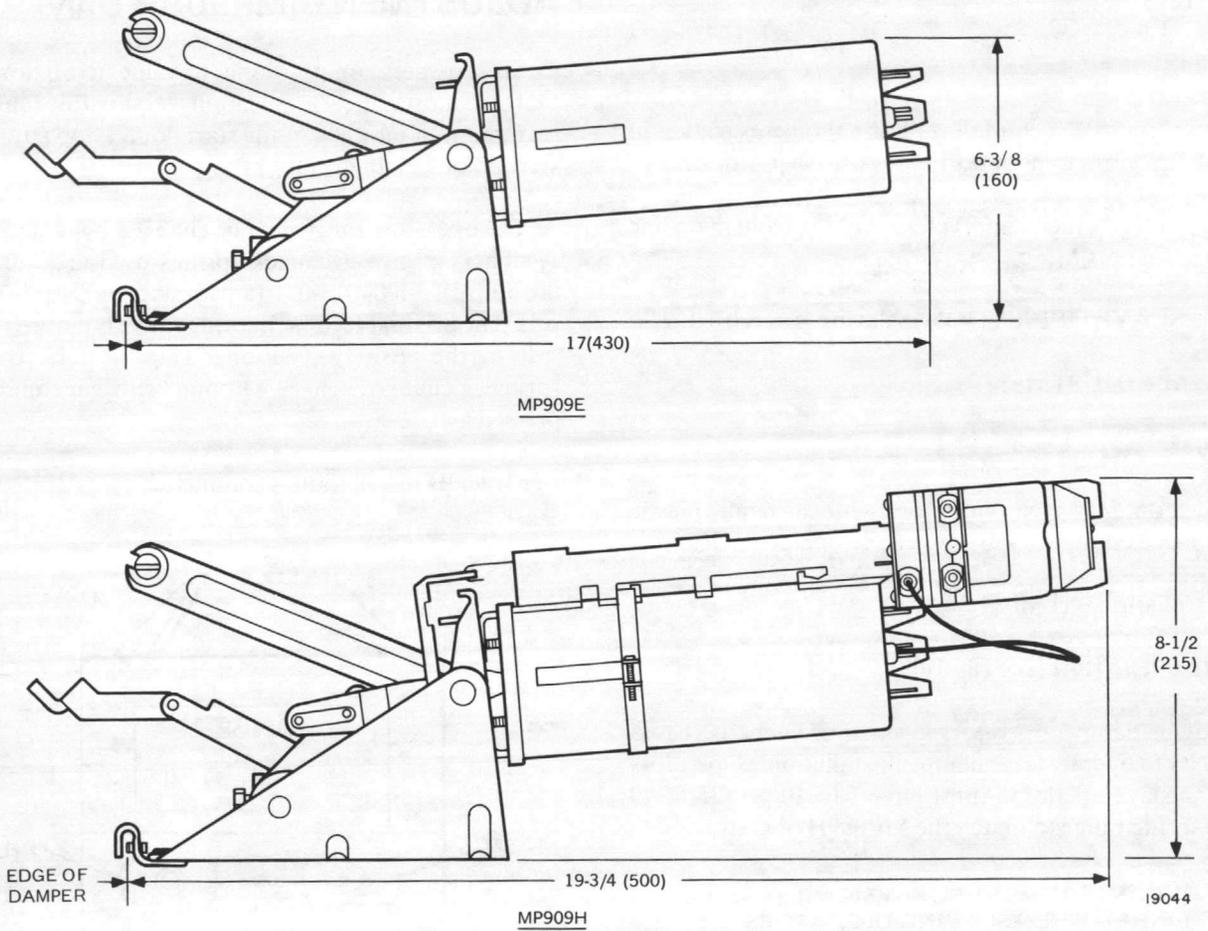

Fig. 8. Internal Mounting Normally Open Dimensions in Inches (Millimeters).
1. For internal mounting normally open dimensions, see Figure 8.